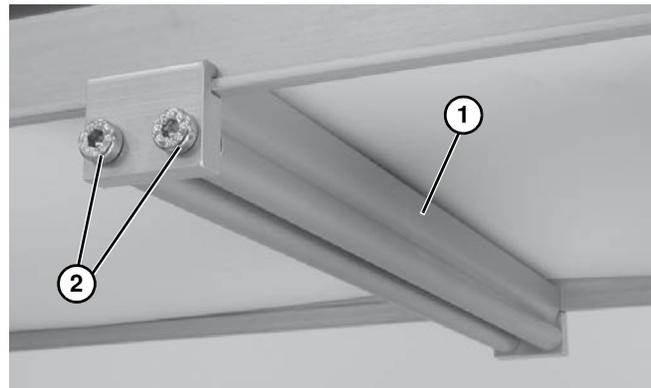

Figure 16
3. Install roller assembly as shown (Figure 16, item 1). Tighten screws (Figure 16, item 2) to 60 in-lb (7 Nm).